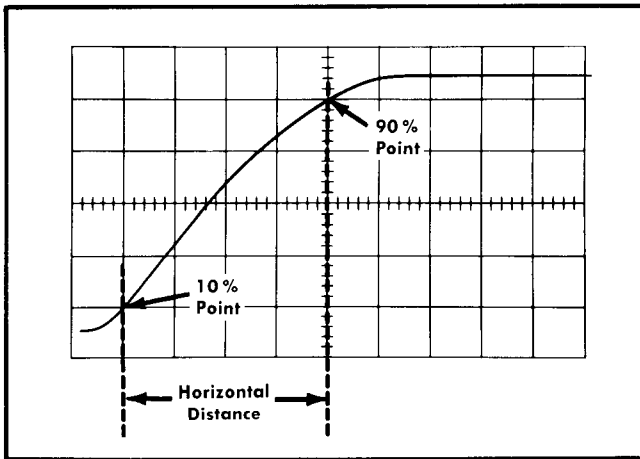

Fig. 2-17. Measuring risetime.
7. Adjust the Horizontal POSITION control to move the 10% point of the waveform to the first graticule line. For example, with a 4-division display as shown in Fig. 2-17, the 10% point would be 0.4 division up from the start of the rising portion.
Example. Assume that the horizontal distance between the 10% and 90% points is 4 divisions (see Fig. 2-17) and the TIME/DIV switch is set to 1 μSEC with the MAG switch set to ×10.